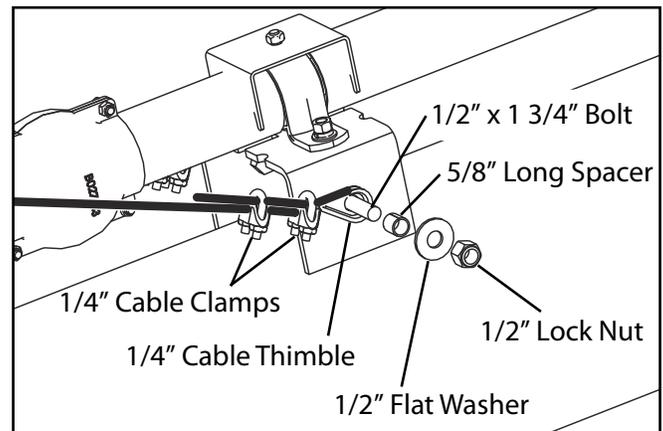

FIG. 3-6. Upper Cable Mounting
5. Attach this end to the bearing bracket shown in Fig. 3-6. Use a 1/2"x 1 3/4" bolt, a 5/8" long Spacer, a 1/2" flat washer and a lock nut.